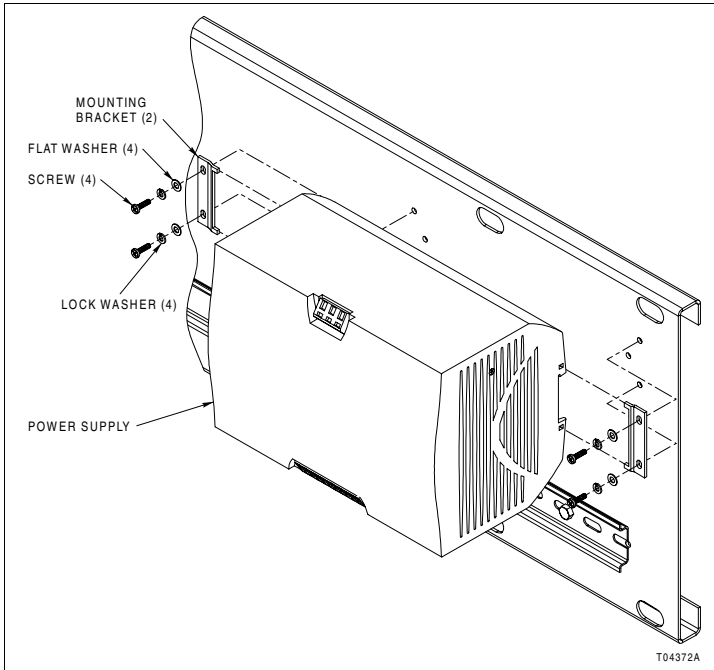

Figure PR4-1. Power Supply Installation
2. Attach one power supply mounting bracket, left or right, to the mounting panel using the screws and washers provided (Fig. PR4-1).